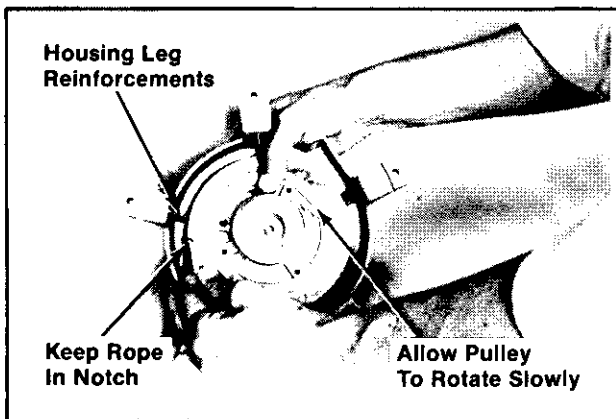

Figure 7-12. Releasing Spring Tension.
7. Hold the housing and pulley with both hands. Release pressure on the pulley and allow it to rotate **slowly** as the spring tension is released. Be sure to keep the rope in the notch. Refer to Figure 7-12.